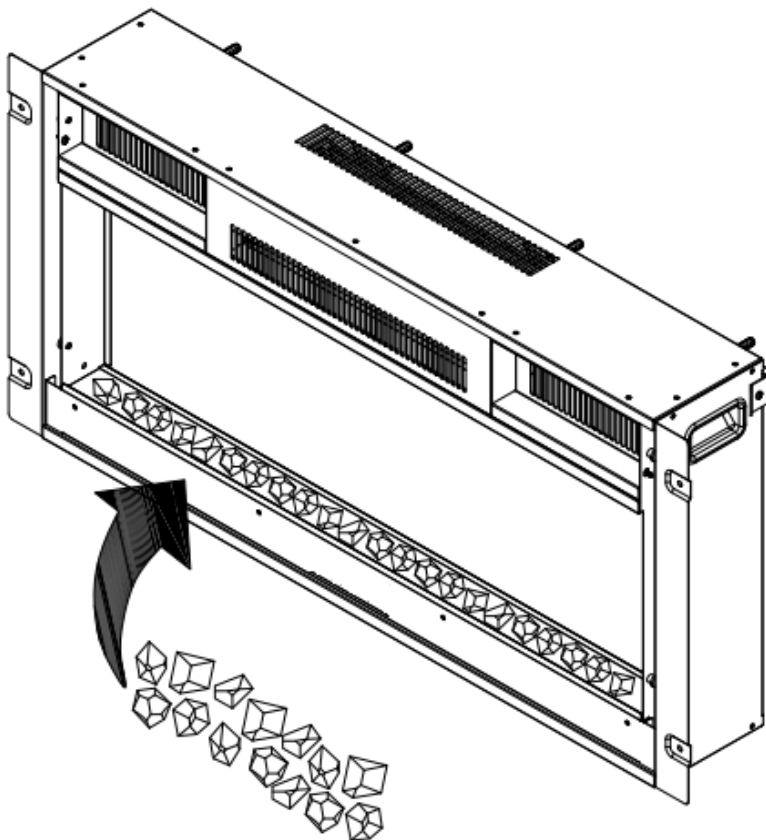

Figure 4
D. Carefully place crystal embers or pebbles into the bottom tray on the front of the appliance as illustrated. Apply an even layer from side to side. **Figure 4.**